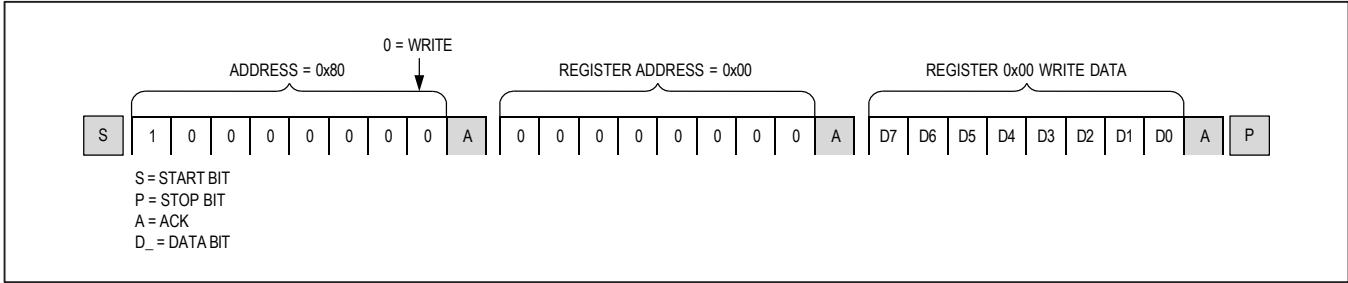
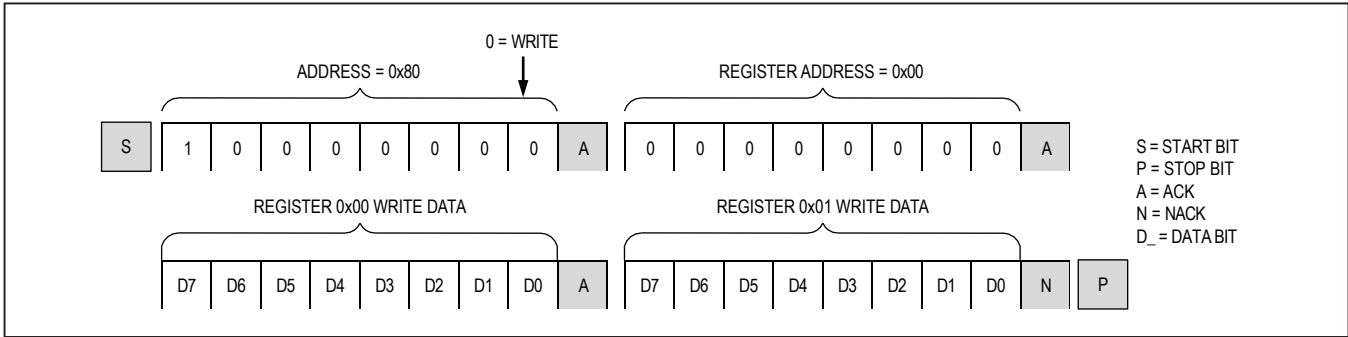

Figure 31. Format for I2C Write
Figure 32. Format for I2C Write to Multiple Registers
Writes to the serializers comprise the transmission of the subordinate address with the R/\overline{W} bit set to zero, followed by at least one byte of information. The first byte of information is the register address or command byte. The register address determines which register of the device is to be written by the next byte, if received. If a STOP (P) condition is detected after the register address is received, the device takes no further action beyond storing the register address (Figure 31). Any bytes received after the register address are data bytes. The first data byte goes into the register selected by the register address, and subsequent data bytes go into subsequent registers (Figure 32). If multiple data bytes are transmitted before